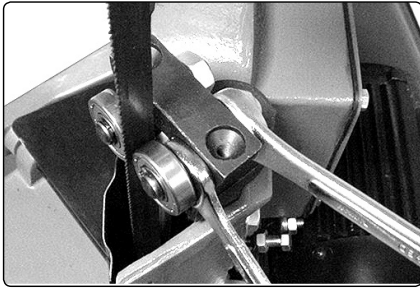

fig.23
7.4.3. Loosen the lock nut while holding the bearing bolt with an open ended spanner, see fig.23.